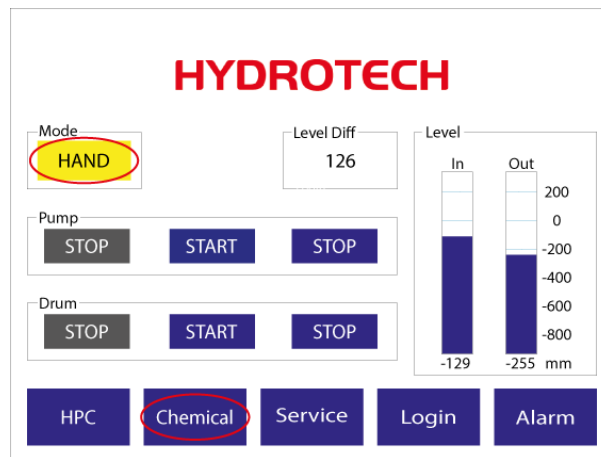

Figure 6.22 Main menu on electrical cabinet operator panel.
3. Select “Chemical” on the operator panel, see Figure 6.22.